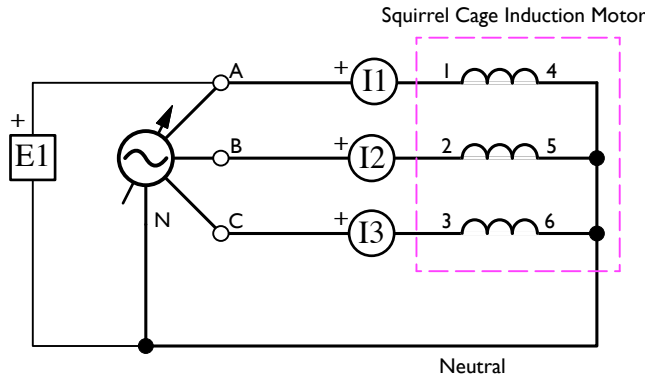

Figure 4.15: Three-Phase Motor – Three Phases
- 30. **Remove the belt** that couples the three-phase squirrel cage induction motor to the dynamometer, and construct the circuit shown in Figure 4.15.